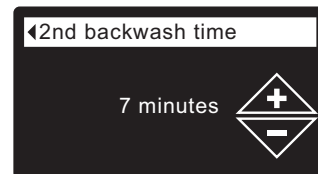

FIG. 86
- 8c. **Second backwash time:** Press the UP (▲) or DOWN (▼) buttons to change the second backwash time. Hold the button down to rapidly advance. The time can be set from 0 to 30 minutes (See Figure 86).